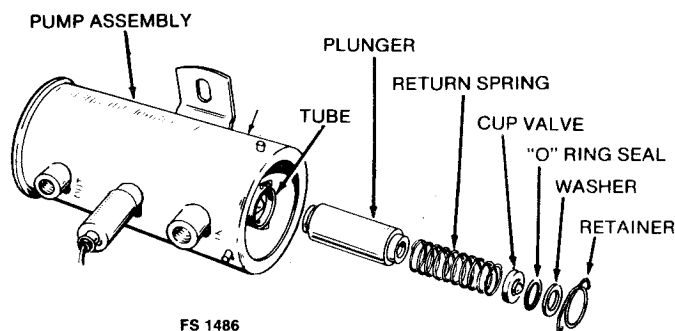

FIGURE 22. REMOVAL OF PLUNGER ASSEMBLY
3. Using a thin nose pliers, remove the retainer spring from the plunger tube. Remove the washer, "O" ring seal, cup valve, plunger spring and plunger from tube (Figure 22).